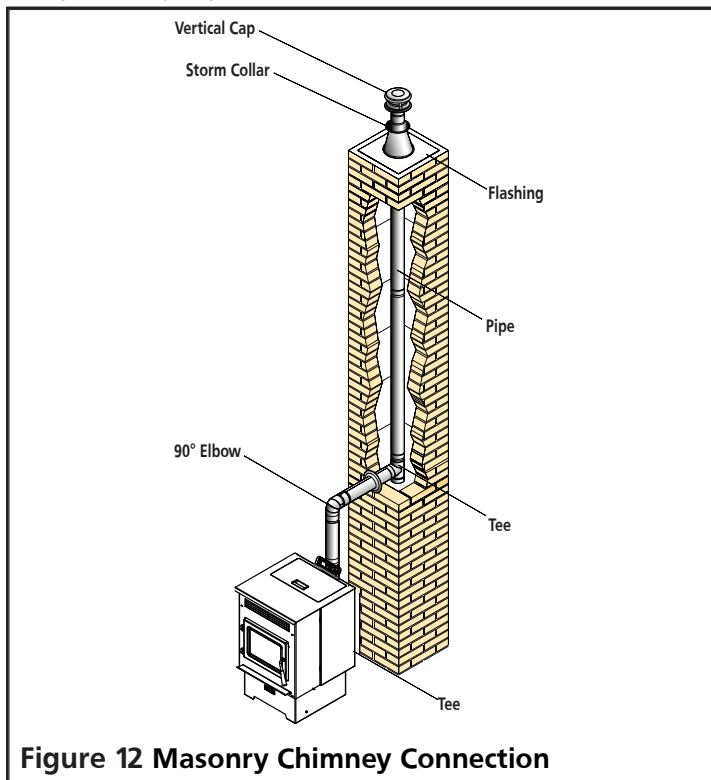

Figure 12 Masonry Chimney Connection
2. The chimney connection must not be obstructed by the chimney connector pipes, such as the figure 12 below illustrates.